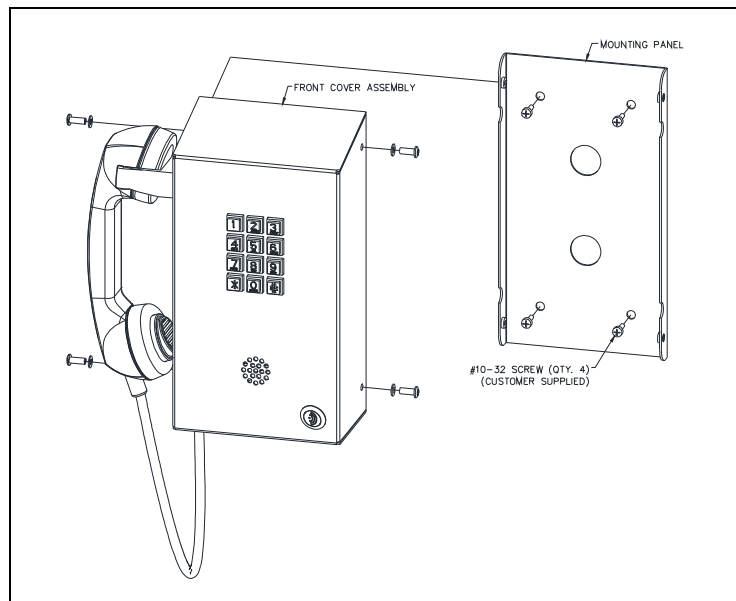

Figure 4. Models 210-710BH/-710BHAC Front Cover Removal
1. Use a GAI-Tronics No. 233-001 security screwdriver to remove the four tamper-resistant cover panel screws (See Figure 4).